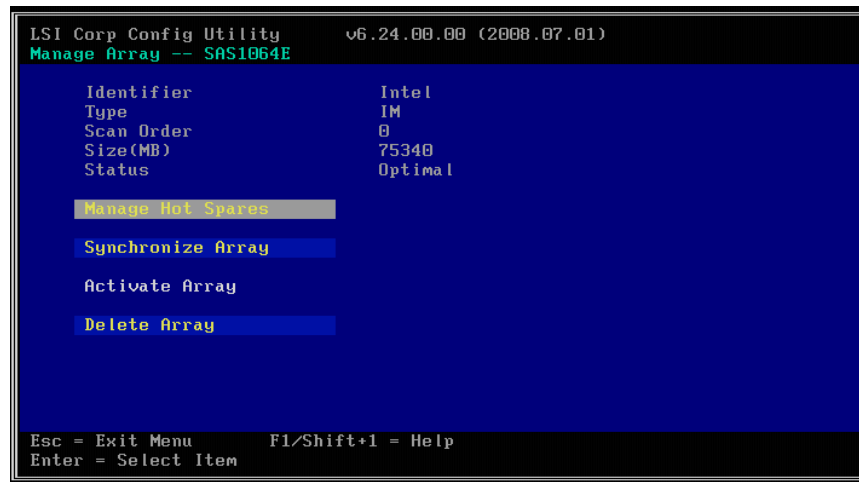

Figure 12. Manage Array Screen
2. In the Manage Array screen select **Manage Hot Spares**, as shown in Figure 12.